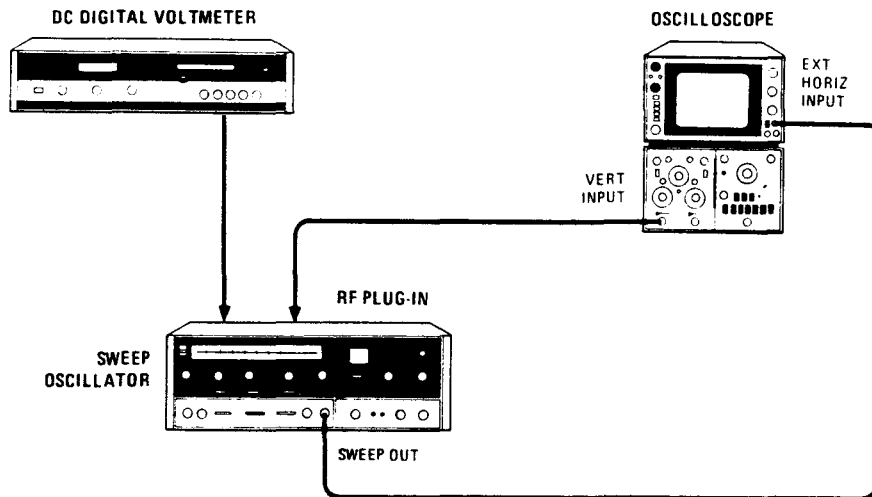

Figure 5-1. Adjustment Test Setup
DESCRIPTION: The A4 and A5 Regulator Assemblies are adjusted to provide the proper dc voltages for the 8620C Sweep Oscillator and RF units connected in the mainframe. (See Figure 5-1 for test setup.)
- DESCRIPTION:** Fan Speed and ON/OFF ratio are adjusted for maximum efficiency (see Figure 5-1 for test setup).
DESCRIPTION: 1 kHz Oscillator is adjusted for proper operating frequency (see Figure 5-1 for test setup).
DESCRIPTION: Set correct sweep time, sweep return time, symmetry, and range of RF Blanking signal (see Figure 5-1 for test setup).
- a. Connect equipment as shown in Figure 5-1.